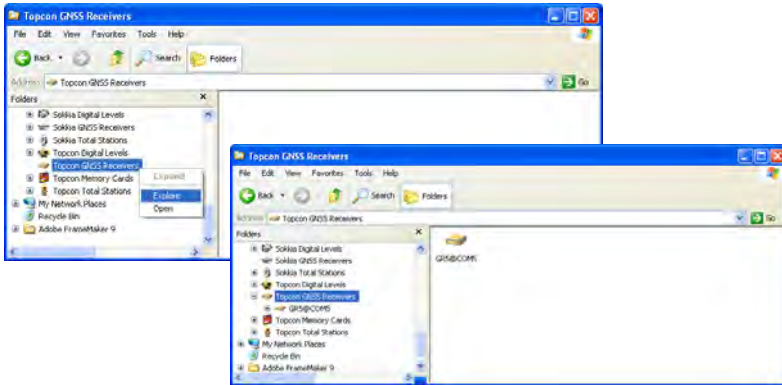

Figure 5-1. Searching and Finding Topcon Receivers in Windows Explorer
2. Open Windows Explorer and click the Topcon GNSS Receivers folder. Right click the folder and select Explore. The right panel of the window displays the automatic start of searching for Topcon receivers connected to any of the computer ports (COM and USB) (Figure 5-1).
When finished, all receivers connected to the computer ports (Figure 5-1) display.